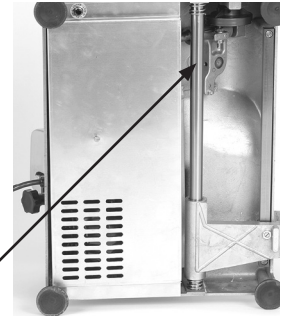

Figure 17-1
3. Put several drops of Globe oil on slide rod (Fig. 17-1) towards the top of slide rod.